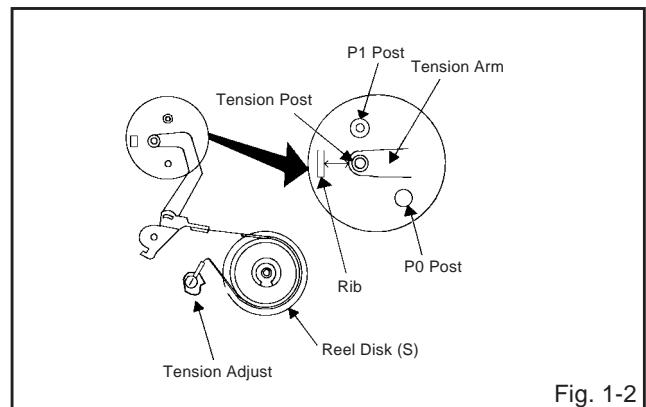

Fig. 1-2
1. Turn on the power and set to the PLAY mode adjust the Tension so that the Tension Post is at the position of 0.3mm~0.5mm from the Rib. (**Refer to Fig. 1-2**)